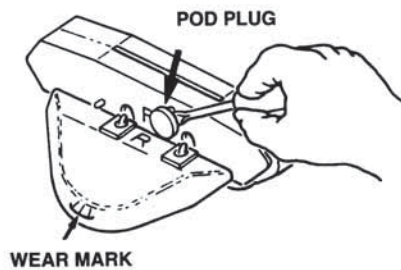

Figure 9
**1. Check the condition of the “shoes, wings and flaps” periodically.** The shoes and wings have wear indicators on their sides and should be checked occasionally to determine if they need replacing. The shoe wear indicator is a line on the side of the shoe that appears as a difference in texture. When this texture difference is no longer visible at the bottom of the shoe when viewed from either side, the shoes must be changed (*see Figure 8*). Also on the side, the wing wear indicator is a horizontal line which has three (3) vertical lines above it. When you can no longer see the horizontal line, the wings must be changed (*see Figure 9*). The Hayward **Navigator Tune-Up Kit** is available from your dealer. Shoes, wings and flaps may also be purchased separately.
- a) Using a screwdriver, remove the plugs from both pods (*see Figure 9*).